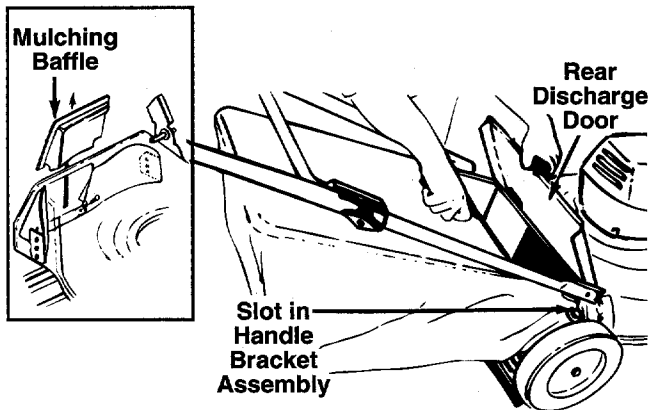

FIGURE 3.
1. Lift the rear discharge door on the mower. Remove the mulching baffle (if so equipped). See figure 3, inset.
2. Place the hooks on the grass catcher into the slots in the handle bracket assemblies. See figure 3. Release the rear discharge door.
IMPORTANT: Your mower is equipped with a circuit breaker, located on the motor/blade control housing. See figure 3. If the circuit breaker trips, reset as instructed in the Maintenance section.